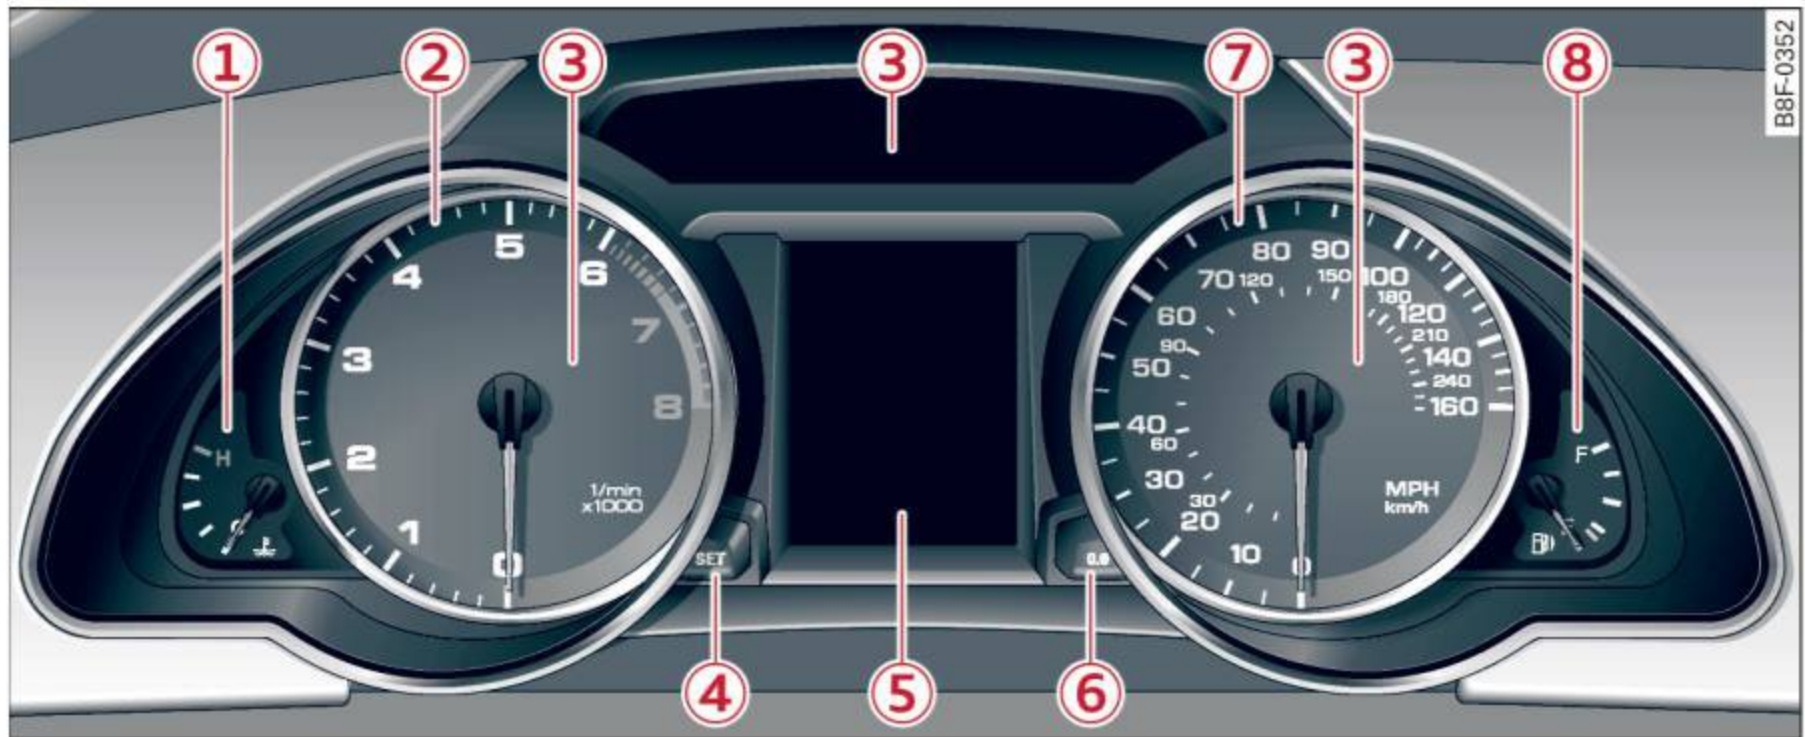

Fig. 3 Overview of the instrument cluster
The engine coolant gauge ⇒ page 8, fig. 3 ① only works when the ignition is on. To prevent damage to your engine, please note the following important points:
The tachometer needle ② ⇒ *page 8, fig. 3* should only briefly be in the red zone: you could damage your engine! The beginning of the red zone varies depending on the engine.